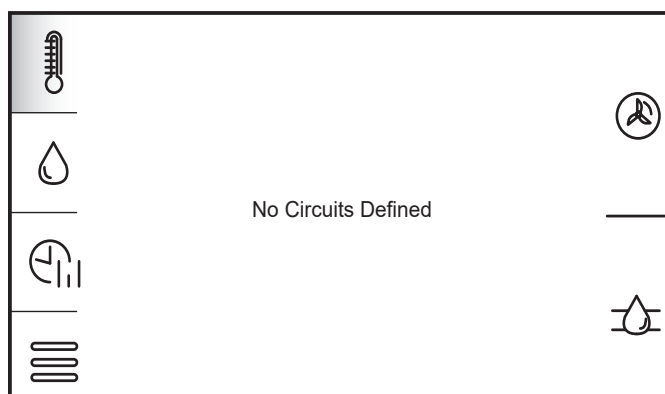

Figure 6-5: No circuits defined
6. If you tap 'X' the controller will take you to the home screen and display "No circuits defined". Refer to Figure 6-5.